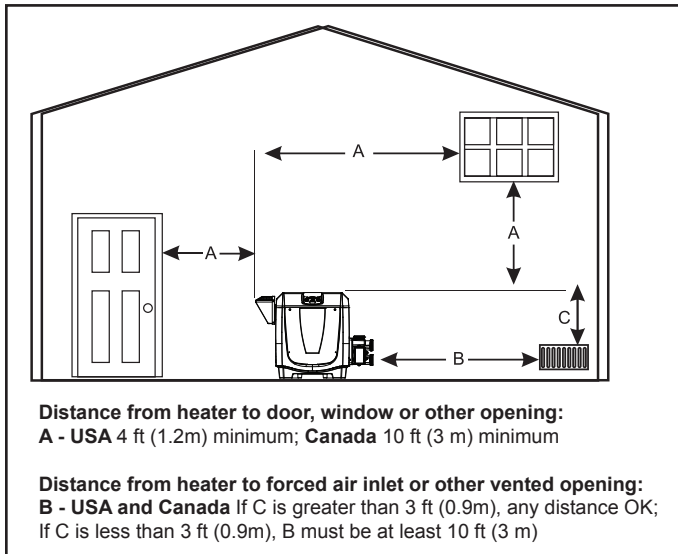

Figure 3. Outdoor Heater Installation
- In Canada, install the heater so that the top of the vent is at least 10 feet (3.0 m) from any building opening. See “Figure 3. Outdoor Heater Installation” on page 9.
- In the United States install the heater so that there is at least a three (3) foot (1 m) clearance between the bottom of the overhang to the top of the heater exhaust vent.